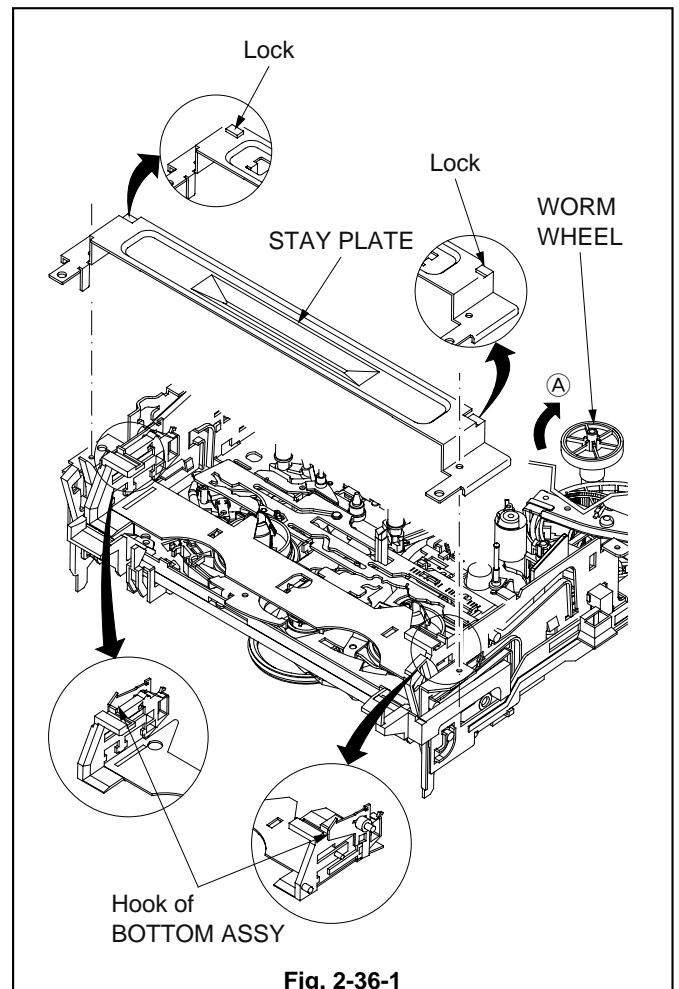

Fig. 2-36-1
1. Rotate the WORM WHEEL in the Fig. 2-36-1 in the direction shown by the arrow (A) to release the Hooks of the BOTTOM ASSY from the Locks of the STAY PLATE.